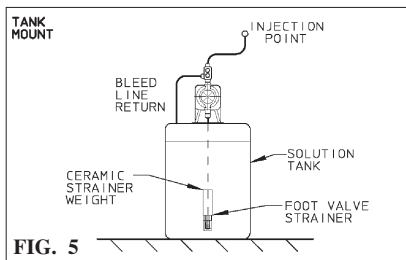

FIG. 5
- The pump can be mounted on top of a solution tank as shown in Figure 5. Install chemical pump on the cover. Insert suction tubing through the center hole and cut tubing so foot valve/strainer hangs about 1 or 2 inches (2-5 cm) above the bottom of the tank. Mount the chemical pump rigidly by drilling four .25" (6 mm) holes and using four #10 (M5) screws and nuts.
- To prevent clogging or check valve malfunction always install a strainer assembly to the end of the suction tubing (Figure 5). This foot valve/strainer assembly should always be installed 1 to 2 inches (2-5 cm) above the bottom of the chemical tank. This will help prevent clogging the strainer with any solids that may settle on the tank bottom. The chemical tank and foot valve/strainer should be cleaned regularly, to ensure continuous trouble free operation. If the chemical being pumped regularly precipitates out of solution or does not dissolve easily or completely (e.g. calcium hydroxide), a mixer should be used in the chemical tank. These are readily available in many motor configurations and mounting. To obtain, contact supplier.